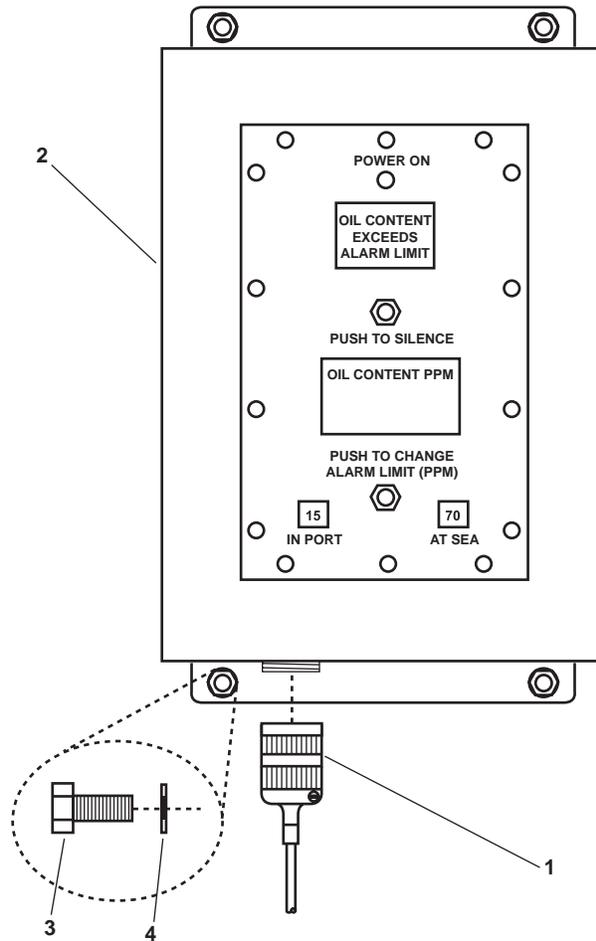

Figure 1. Remote Indicator Assembly Removal
1. Disconnect the Oil Content Monitor (OCM) remote indicator (alarm) cable connector (figure 1, item 1) from the remote indicator (alarm) assembly (figure 1, item 2).
2. Remove the four bolts (figure 1, item 3) and lockwashers (figure 1, item 4) securing the remote indicator (alarm) assembly (figure 1, item 2) to the bulkhead. Discard the lockwashers.
3. Remove the remote indicator (alarm) assembly (figure 1, item 2).
1. Position the remote indicator (alarm) assembly (figure 1, item 2) on the bulkhead.
2. Install the four bolts (figure 1, item 3) and new lockwashers (figure 1, item 4) securing the remote indicator (alarm) assembly (figure 1, item 2) to the bulkhead. Securely tighten the four bolts.
3. Connect the remote indicator (alarm) cable connector (figure 1, item 1) to the remote indicator (alarm) assembly's (figure 1, item 2) receptacle.